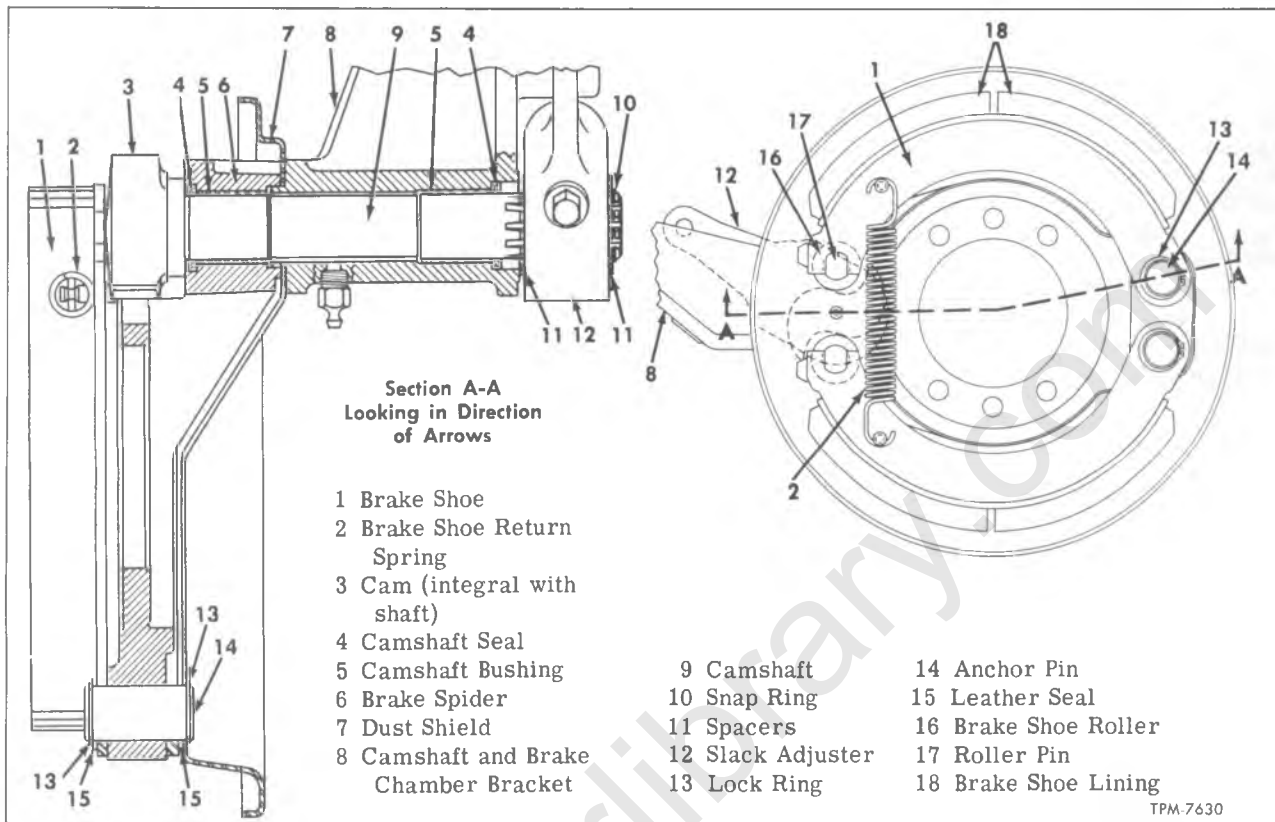

Figure 25—Rear Brake Assembly
Brake assembly shown in figure 25 is a typical Wagner brake assembly.
(Refer to Figure 25)
Slack adjuster, mounted on splined end of camshaft, is held in place by a lock ring. A spacer is used on each side of slack adjuster. On the brake assembly shown in figure 25, the two spacers (11) are the same; on some models equipped with offset slack adjusters, the inner spacer is thicker than the outer spacer. Whenever camshaft has been removed, coat bushing surfaces with S-17 Special Lubricant or equivalent before installing. After installation, apply lubricant as directed in LUBRICATION (SEC. 0), and adjust brakes as directed under "Brake Adjustments."